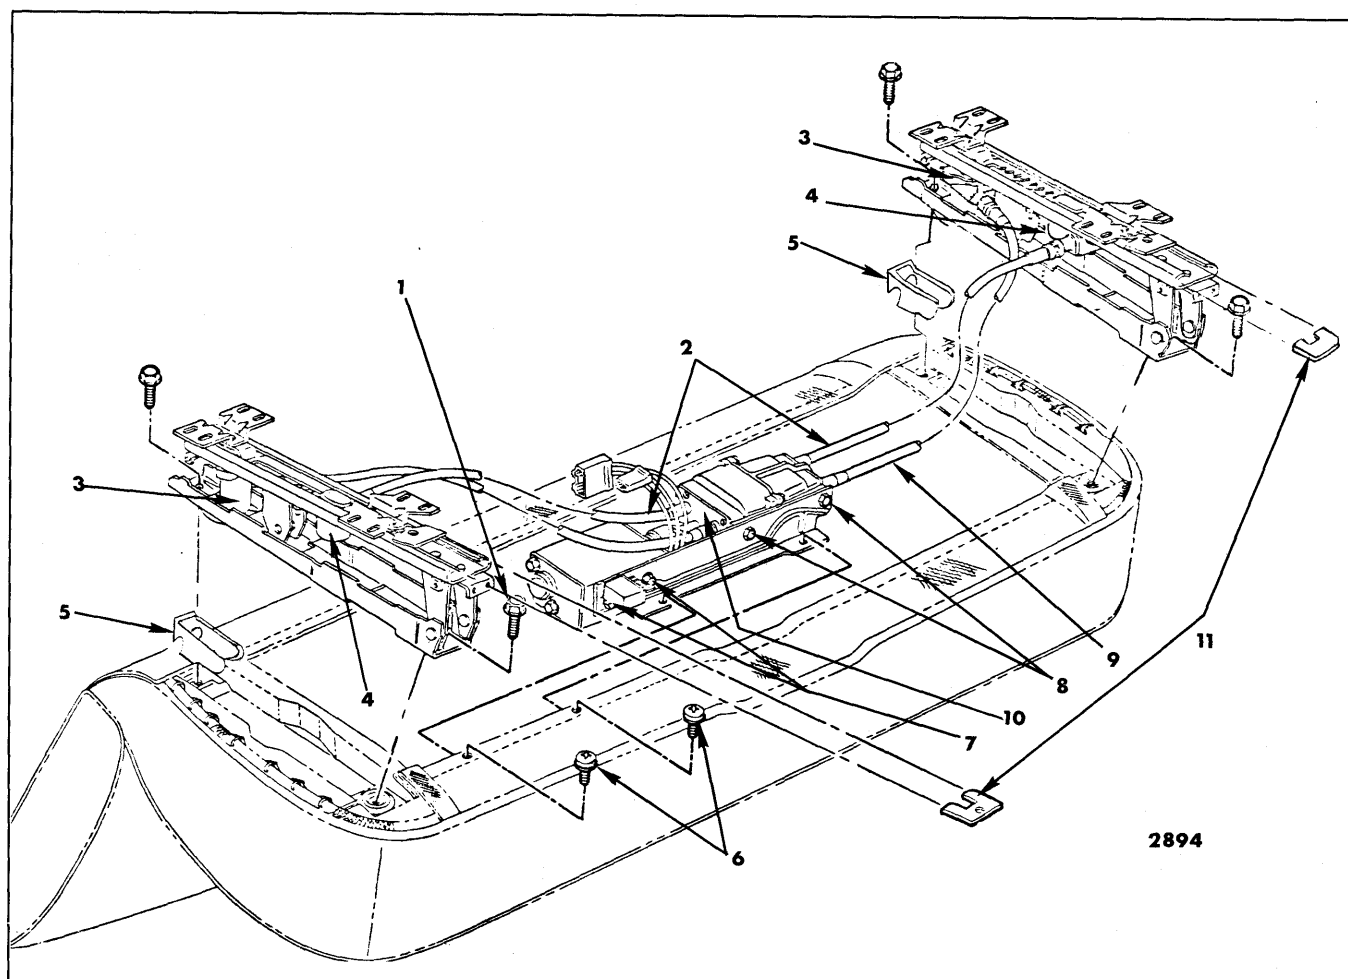

Fig. 15-13—Front Seat Assembly - Four-Way Tilt - Buick "B, C & E" Styles
3. Remove screws securing motor and transmission support to seat bottom frame ("6", Fig. 15-13).
2. Detach both horizontal and vertical cables from seat adjuster (See Fig. 15-13).
4. Remove transmission to support attaching bolts (Fig. 15-13); then, disengage transmission from rubber coupler and remove transmission from seat assembly.